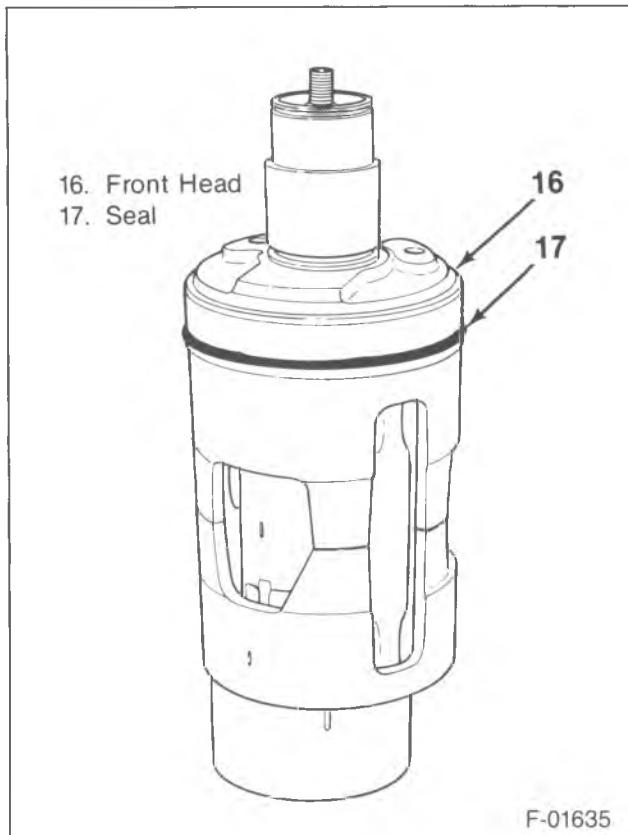
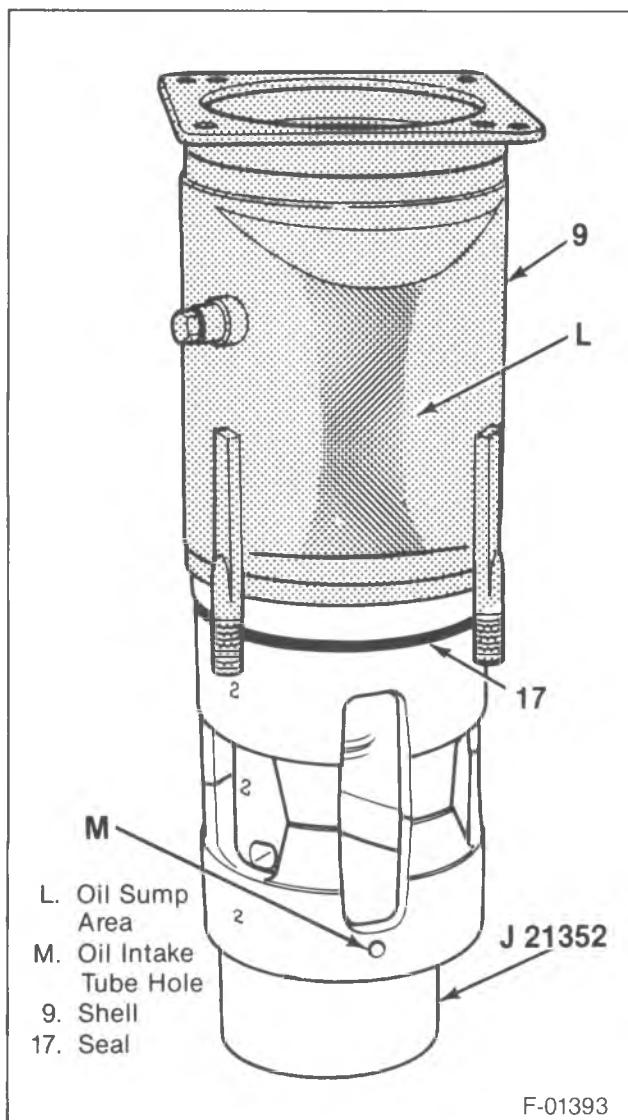
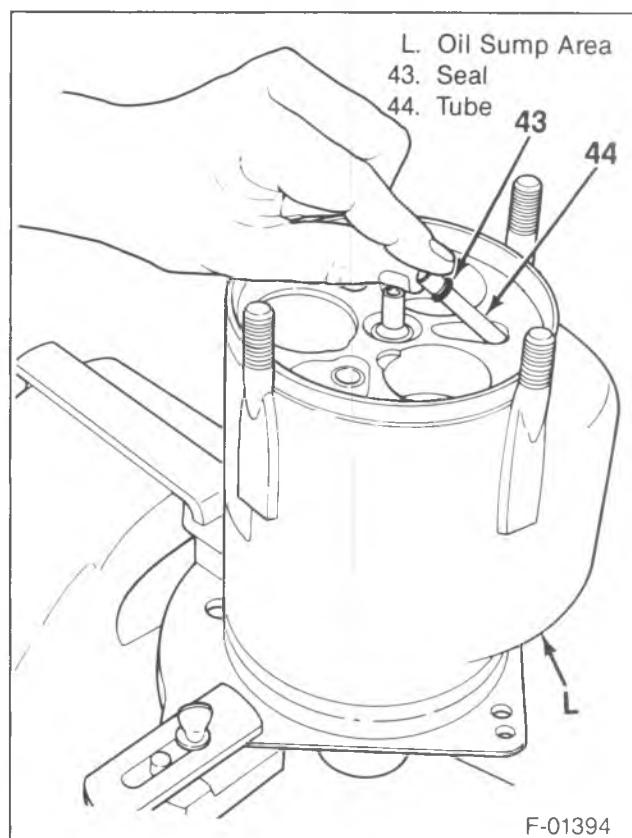

Figure 47—Installing the Front Head Seal
Figure 48—Installing the Compressor Shell
Figure 49—Installing the Oil Pick-Up Tube
- Do not rotate the front head (16) to line up with the dowel pins because this will contact the reed container.
14. Seal (17) to the front head (16) (figure 47).
- Lubricate the seal (17) and groove with clean 525 viscosity refrigerant oil.
15. Shell (9) to the internal assembly (figure 48).
- Coat the inside of the shell (9) with clean 525 viscosity refrigerant oil.
- Position the shell (9) on the internal assembly. Rest the shell (9) on the seal.
- With the flat side of a small screwdriver, position the seal (17) in a round, circle shape to the inside of the shell (9).
- Slide the shell (9) down. Line up the oil sump with the oil intake tube hole.
16. New dowel pins (20) to the rear cylinder half.
17. Seal (43) to oil pick-up tube (44).
18. Oil pick-up tube (44) to the compressor (figure 49).
- Lubricate the oil pick-up tube (44) with clean 525 viscosity refrigerant oil.
- Place the oil pick-up tube (44) in the cavity.
- Rotate the compressor assembly to align the tube (44) with the hole in the shell baffle.